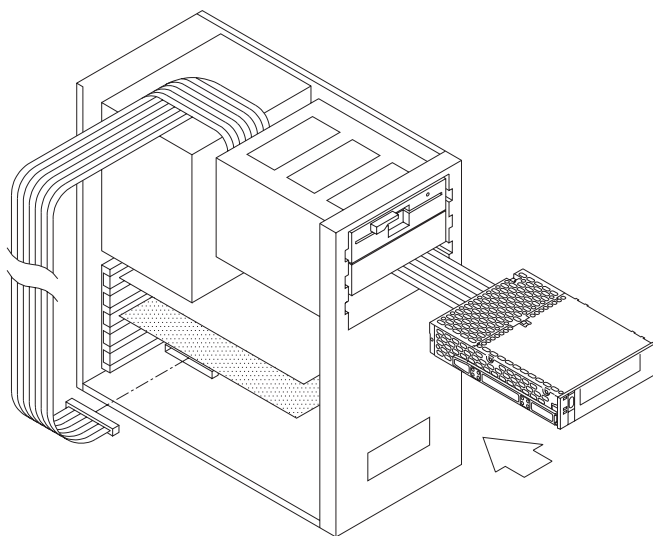

Figure 6 Inserting the drive into the drive bay and connecting the SCSI cable to the adapter card
3. From the front of the computer, thread the SCSI cable through the open drive bay, as shown in Figure 6. Slide the tape drive into the bay until the front of the drive is flush with the front of the drive bay.